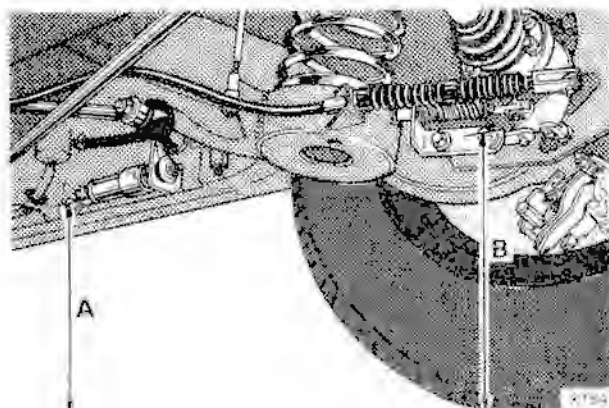

Fig. 1
- 13 Measure the height at A and B (see fig. 1). Subtract measurement B from measurement A. If the difference between A and B complies with the figures in the attached chart, then the rear height of the car is set correctly.